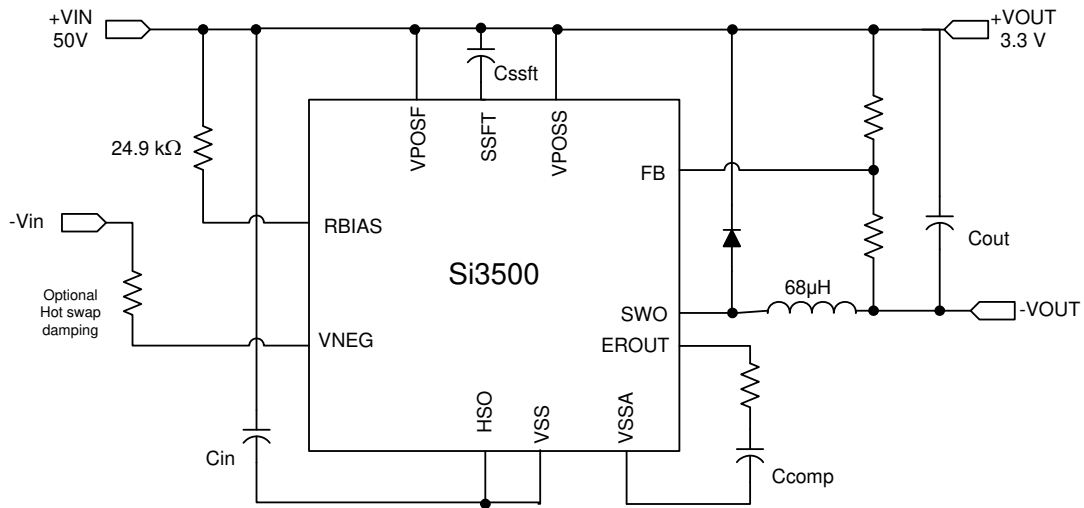
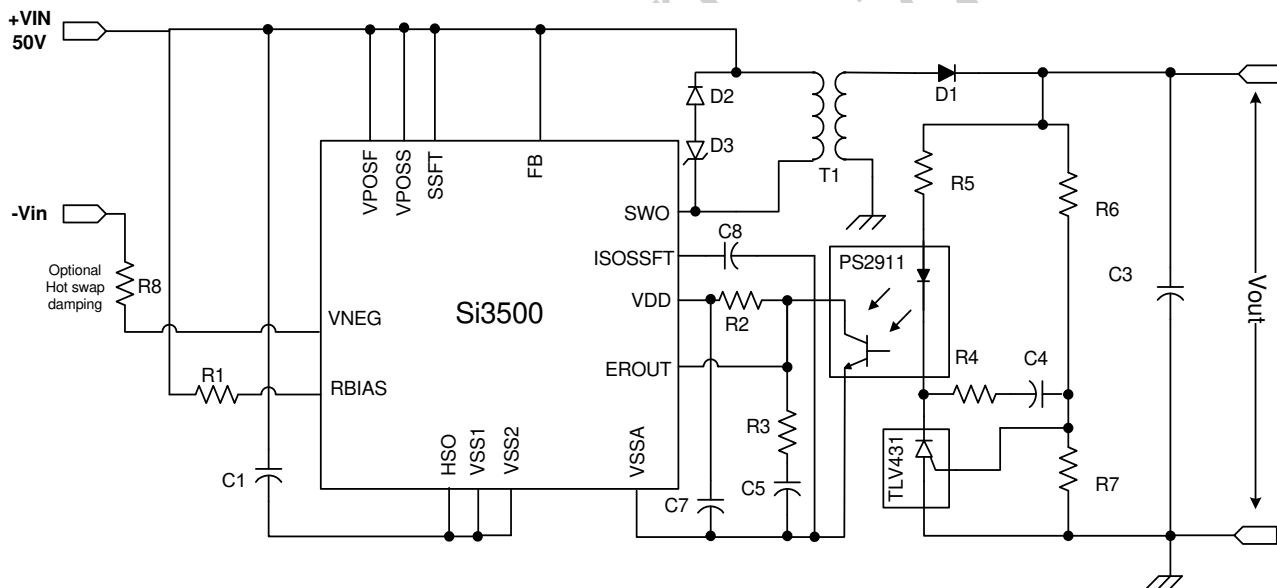
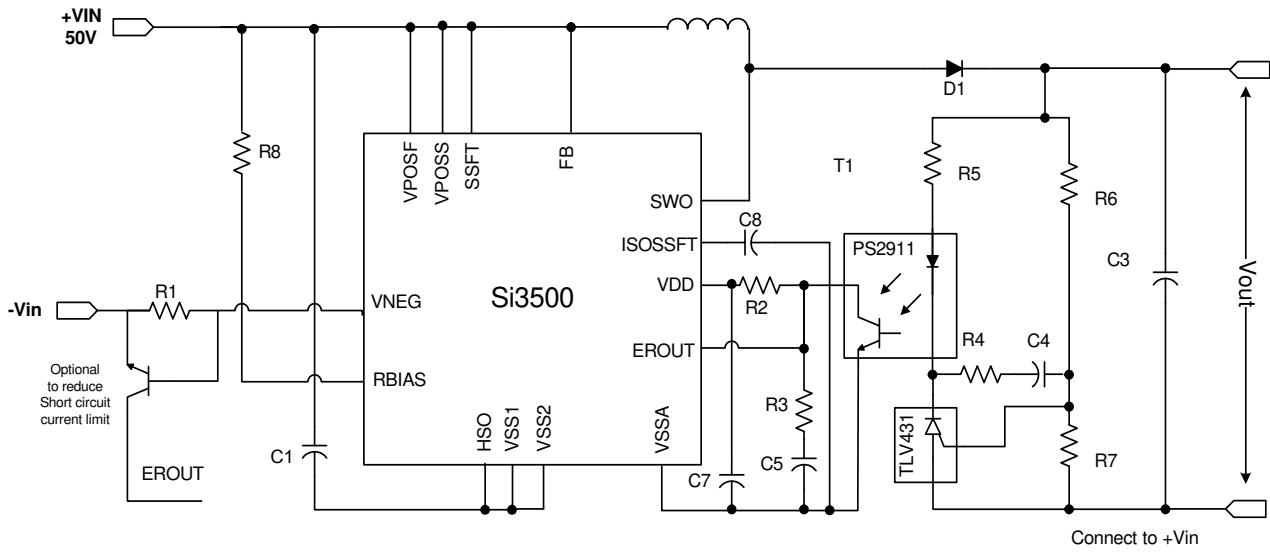

Figure 1. Schematic (Non-Isolated 3.3 V Output)*
Figure 2. Schematic (Isolated 3.3 V Output)*
Figure 3. Schematic—Non-Isolated 3.3 V Output*
2. Applies to non-isolated applications only (VOUT on schematic in Figure 1).
The application determines the converter topology. An isolated application will require a flyback transformer-based switching topology while a non-isolated application can use an inductor-based buck converter topology. In the isolated case, dc isolation is achieved through a transformer in the forward path and a voltage reference plus opto-isolator in the feedback path. The application circuit shown in Figure 2 is an example of such a topology. The non-isolated application in Figure 1 makes use of a single inductor as the energy conversion element, and the feedback signal is directly supplied into the internal error amplifier. The approach shown in Figure 3 is for a non-isolated application where the output is more positive than the input.